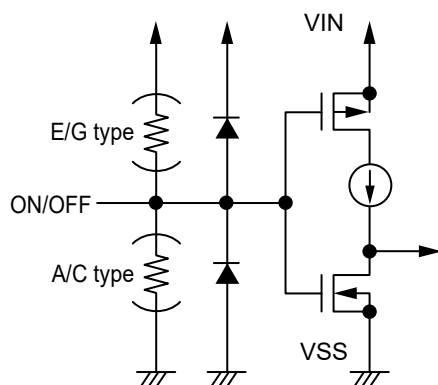
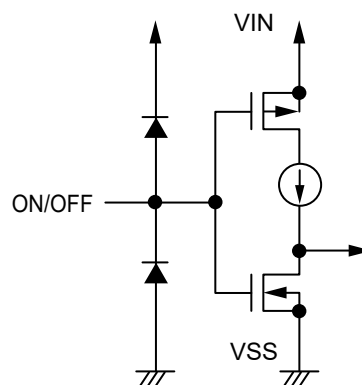

Figure 24
Figure 25
The ON/OFF pin is configured as shown in **Figure 24** and **Figure 25**. In the S-1711 Series A/ C/ E/ G type, the ON/OFF pin is internally pulled up or pulled down to the VSS pin in the floating status, so the VOUT pin is set to the V_{SS} level. In the S-1711 Series B/ D/ F/ H type, the ON/OFF pin is not internally pulled up or pulled down, so do not use the ON/OFF pin in the floating status. When not using the ON/OFF pin, connect it to the VIN pin in the product B/ D type, and connect it to the VSS pin in F/ H type.
*1. Note that the IC's current consumption increases as much as current flows into the pull-up/pull-down resistor when; the ON/OFF pin is connected to the VIN pin in the A/ C type, the ON/OFF pin is connected to the VSS pin in the E/ G type (Refer to **Figure 24**).